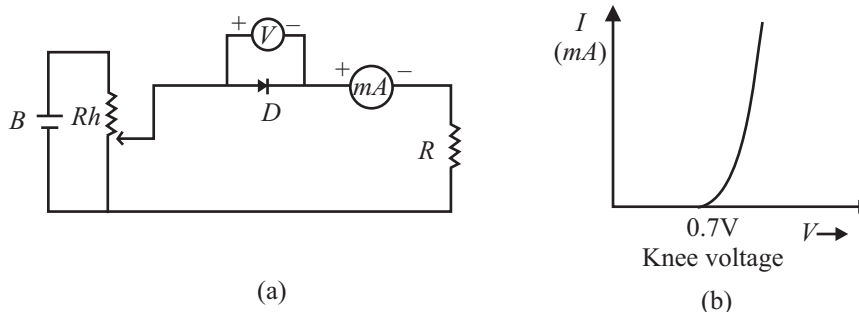
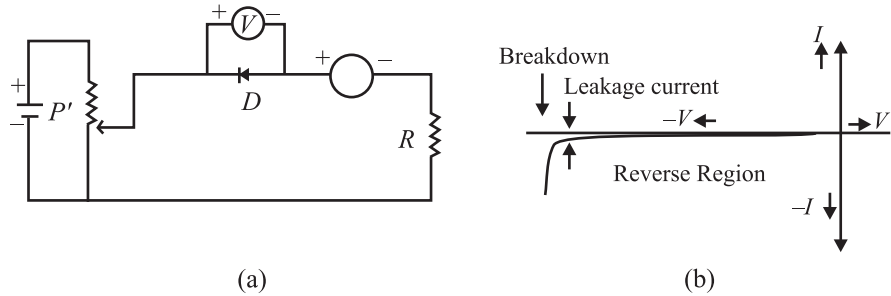

Fig. 28.10 : (a) Circuit diagram I - V characteristics of a p - n junction diode in forward bias, and (b) typical characteristics curve.
Fig.28.11 : a) Circuit diagram to obtain I - V characteristics of a p - n junction in reverse bias, and b) reverse bias characteristic curve
Refer to Fig. 28.10(a). You will note that to draw forward bias characteristic of a $p-n$ junction diode, the positive terminal of a battery (B) is connected to p -side of
The I - V characteristic curve of a p - n junction in forward bias is shown in Fig. 28.10(b).
To draw reverse bias characteristics of a p - n junction, we use the circuit diagram shown in Fig. 28.11 (a). If you compare it with Fig. 28.10(a) for forward I - V characteristics, you will note two changes:
A typical I - V characteristic curve of a p - n junction in reverse bias is shown in Fig 28.11(b).
Note that the junction current is comparatively much less in reverse bias for all voltages below the breakdown voltage. And at breakdown voltage, the current increases rapidly for a small increase in voltage. Moreover, comparison of Fig. 28.10(b) and 28.11(b) reveals that a p - n junction diode offers low resistance when it is forward biased and high resistance when reverse biased. At the breakdown voltage in reverse biased p - n junction diode, the sharp increase in reverse current is due to sudden decrease in resistance offered by the junction.